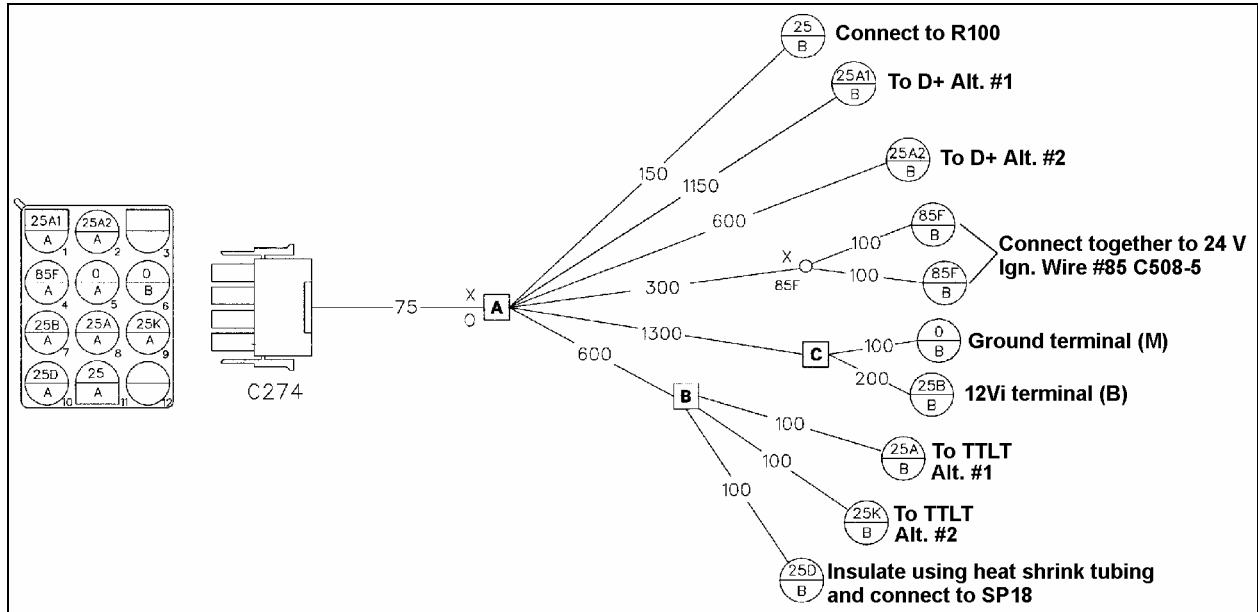

FIGURE 16: INSTALLATION OF CABLE HARNESS #065152 IN REAR ELECTRICAL COMPARTMENT
3. Plug connector C274 (from cable #065152, included in kit) to the electronic module (refer to figure 16);